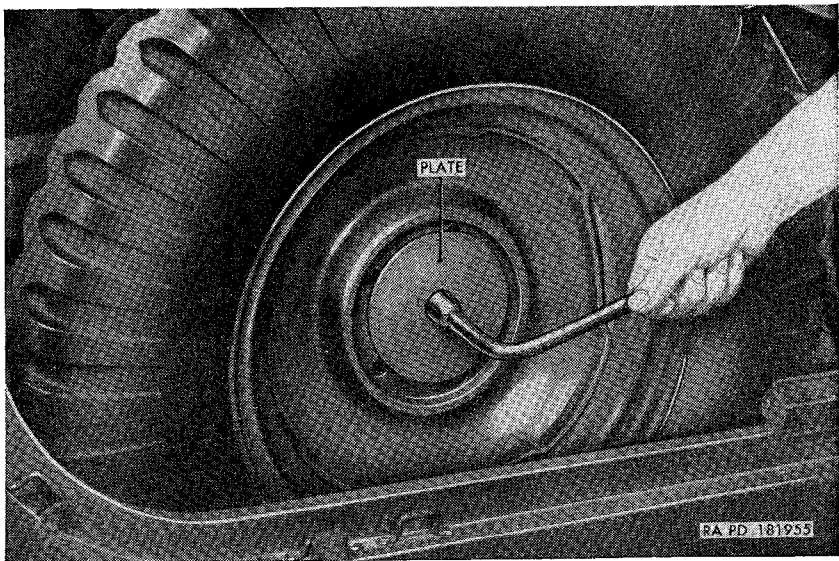

Figure 173. Spare wheel and tire (M170).
- (1) Using the hub stud wrench supplied with the vehicle, loosen the bolt securing the plate (fig. 173) and spare wheel to the mounting bracket.
- (2) Unscrew the bolt with the fingers and remove the bolt and plate.
- (3) Remove the spare wheel and tire from the well.